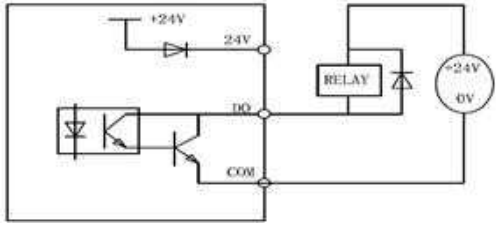

Figure 2-12 On-off output connection mode 2 of multi-function output terminals
2) Multi-function output terminals Y as discrete output can also use the external, 9~30V, power supply and the wiring method is shown in Figure 2-12